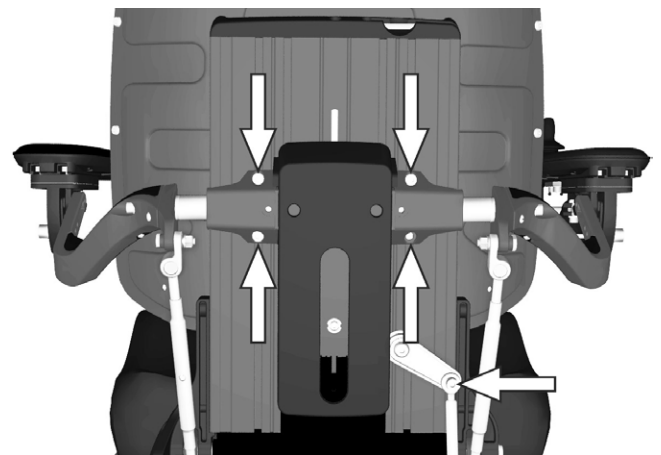

Figure 204. The armrests are held in place by four screws. The joint for the backrest slide function is held in place by one screw
6. Assemble the armrests using the four screws. See fig. 204. Tighten the screws using a torque wrench. **Tightening torque 9.8 Nm / 7.2 Ft/lbs.**
7. Assemble the joint for the backrest slide function using the screw supplied. See fig. 204. Tighten the screw using a torque wrench. **Tightening torque 9.8 Nm / 7.2 Ft/lbs.**